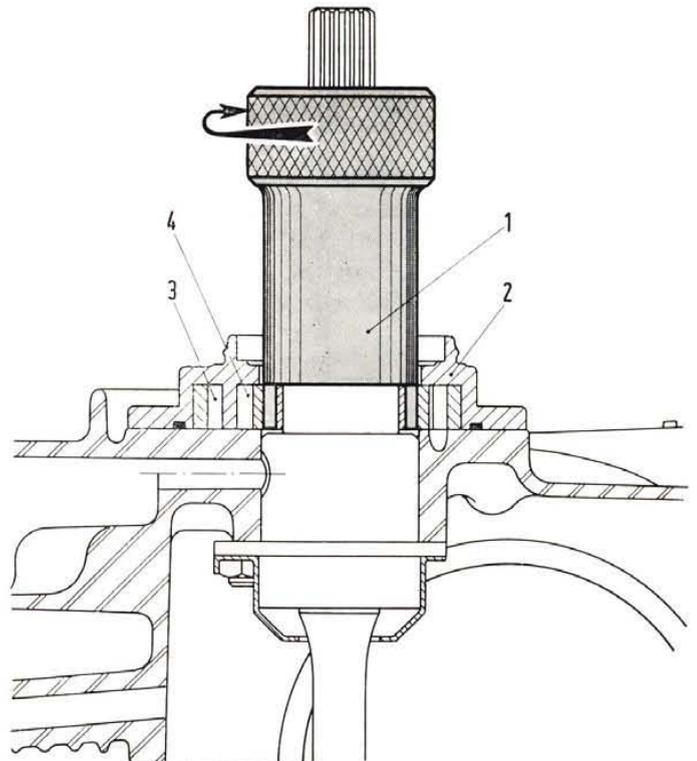

Fig. 594 - Checking pump gear rotation.
- insert service tool **A. 70144** (fig. 594) and check for noisy gear operation and roughness during running;
- check gear rotation using service tool **A. 70144** (fig. 594);